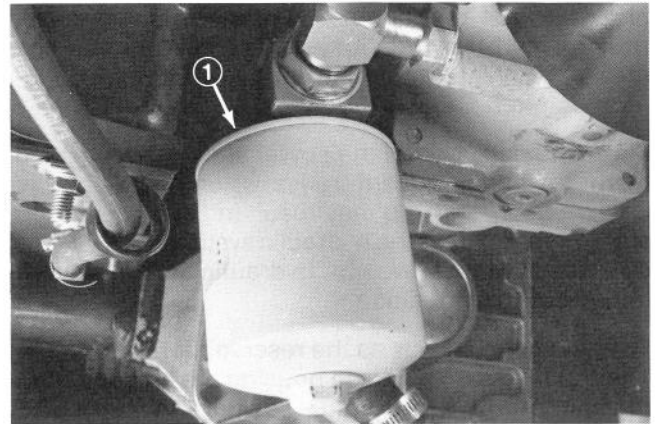

Figure 53
1. Clean area where hydraulic oil filter mounts. Remove filter from base (Fig. 53) and clean filter mounting surface.